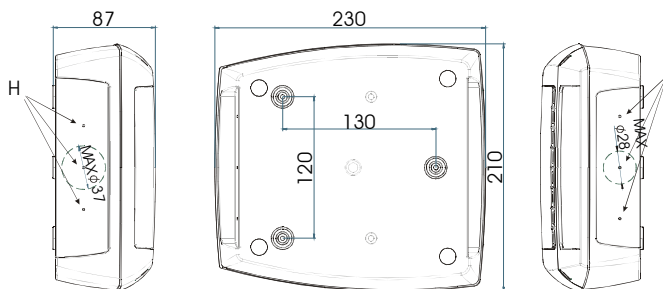

FIG. 3
3. Make the proper holes for cablepresses or pipepresses using the centres signed in the bottom cover of the Cool Mate, (Fig. 3, H, I, ). Then make 3 holes in the wall, as indicated in (Fig. 3, L, M, N), to fix the Cool Mate
5. Insert the wall-nugs, contained in the kit, into the holes made in the wall. Then use the o-rings and fix the back part of the Cool Mate (Fig. 3, L, M, N) by means of the 3 screws to the wall itself.
5. Make the proper holes for cablepresses or pipepresses using the centres signed in the bottom cover of the Cool Mate, (Fig. 3, H, I, ).